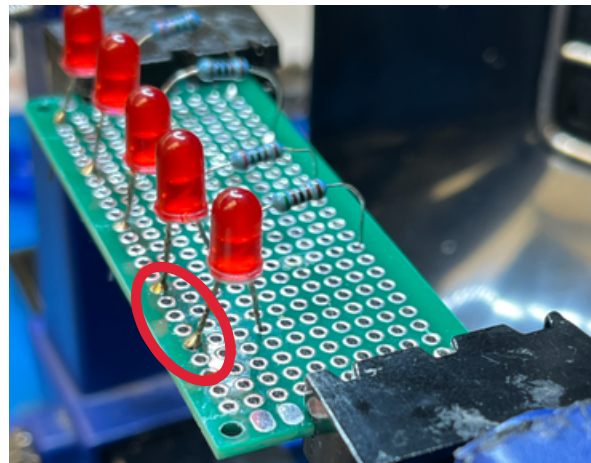

Figure 2b
**2a.** You will need to bend the legs a bit and use some force to get this placement. The idea is to use friction and tension in the legs to hold the LEDs temporarily. Repeat this for the other 4 LEDs, and space them apart with three or four holes in between each one as seen in Figure 2b.